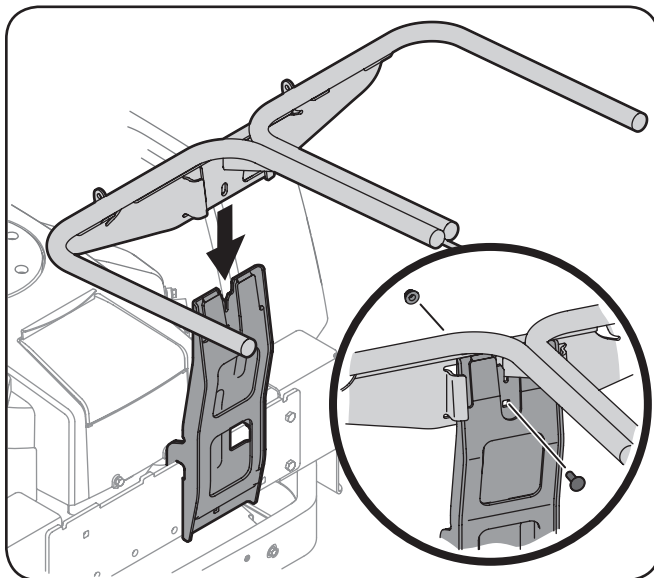

Figure 4-5
- Install and secure the hanger assembly onto the upright support bracket using a 710-0276 carriage bolt and 712-04063 flange lock nut from hardware pack 689-00320. See Figure 4-5.